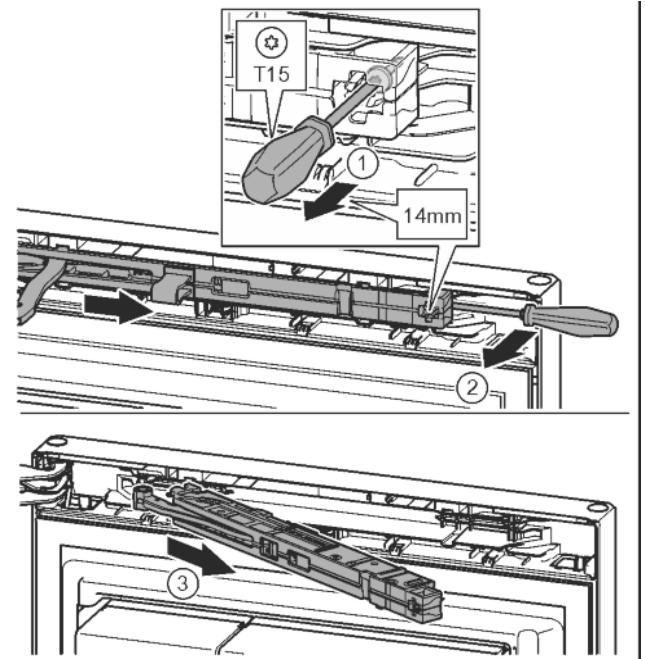

Fig. 11
- ▶ Undo the soft stop mechanism screw with a T15 screwdriver approx. 14 mm. Fig. 11 (1)
- ▶ Insert a screwdriver behind the soft stop mechanism on the handle side and rotate forwards. Fig. 11 (2)
- ▶ Remove the soft stop mechanism. Fig. 11 (3)